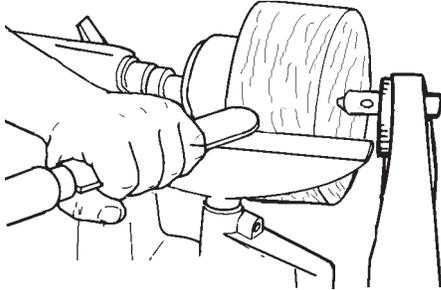

Figure D-51
2. Rounding -- Round the outside, using a roundnose or gouge, just as you would for spindle rounding. See Figure D-51. If the wood grain is perpendicular to the axis of rotation, do not shear.